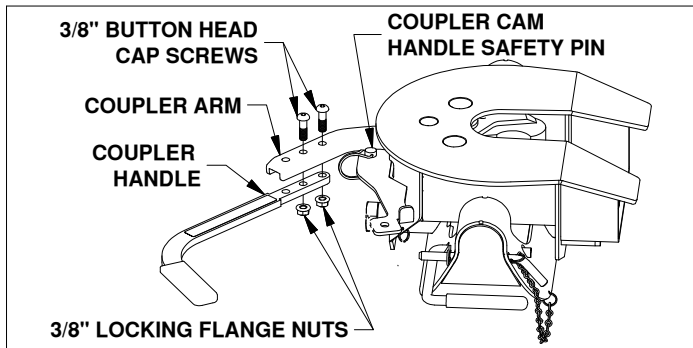

Figure E1: View looking down at side of coupler head.
1. Locate the two 3/8" x 1-1/4" button head cap screws and the two 3/8" flanged lock nuts provided in a bolt bag. Pull out the coupler arm and pin it with the safety locking pin near the base of the arm as shown in Figure E1.
Using the button cap screws and the lock nuts, attach the coupler handle to the arm and tighten, see Figure E1. Pull out the coupler cam handle safety pin.